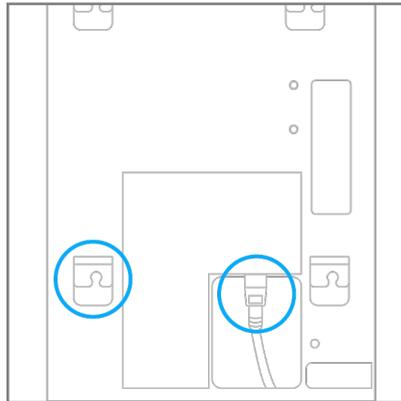

Figure 10.
Step 6: Reinstall and tighten the final screw in the lower left corner then reach into the access hole in the back of the Swift UV and plug the power cable into the power inlet terminal (Figure 10.).